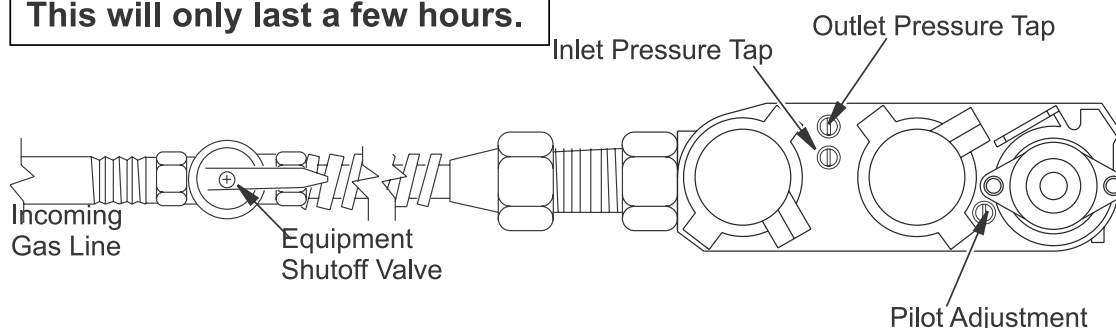

Figure 31 - Turning Equipment Shutoff Valve to the OFF Position
5. Turn equipment shutoff valve clockwise  to the OFF position (see Figure 31). Do not force.
6. Wait five (5) minutes to clear out any gas. Then smell for gas, including near the floor. If you smell gas, STOP! Follow "B" in the safety information. If you don't smell gas, go to the next step.